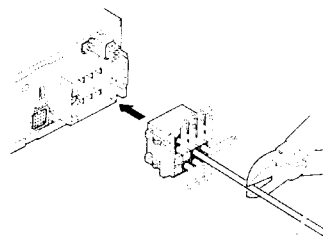

Figure 2
2. When the car stereo is installed in 1998 and later Volkswagen models, make sure to cut the car lead wire connected the A-5 terminal. (A breakdown could occur if the lead wire is not cut.) After cutting the lead wire, insulate the front end of the lead wire with insulation tape to prevent the risk of short-circuits. (Figure 2)